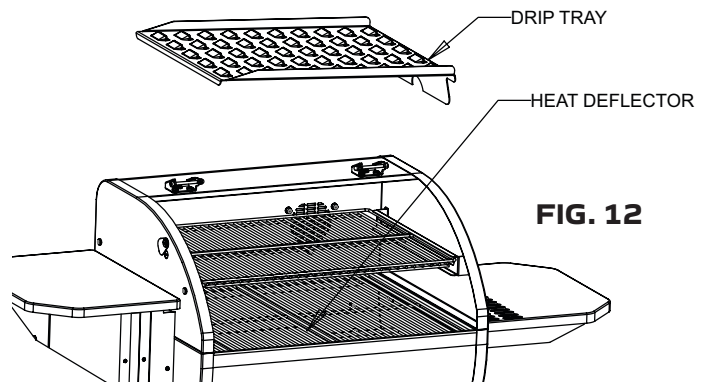
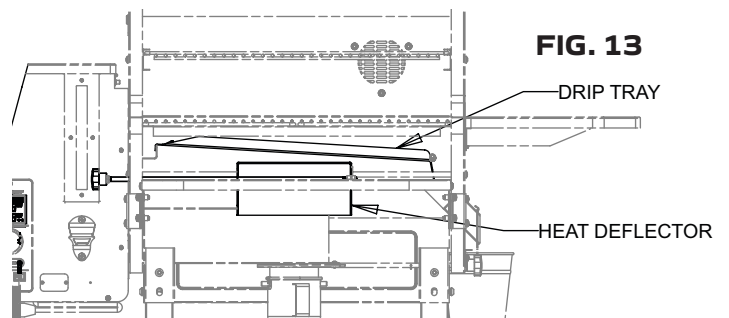

FIG. 12
FIG. 13
1. Install the Drip Tray as shown in Fig 12 and Fig 13.